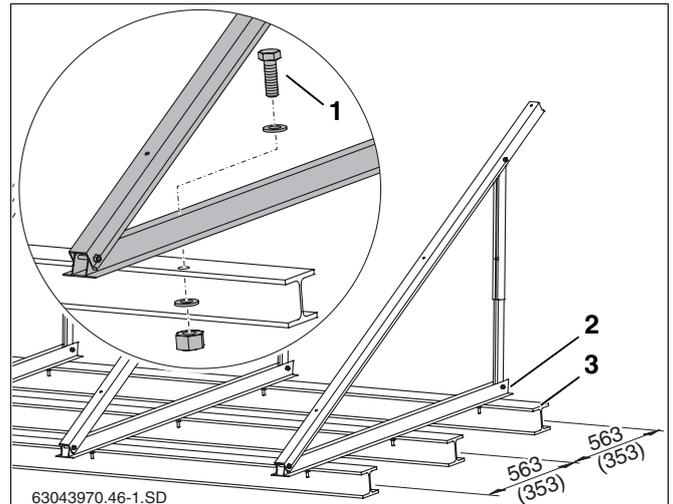

Fig. 26 Flat roof support on girders, dimensions in mm (value in brackets = landscape version)
You can fasten the flat roof supports with anchor bolts. As an example, we describe fastening onto girders (Fig. 26, **Item 3**).
- ▶ Transfer the lower profile hole clearances (Fig. 26, **Item 2**) onto the girders, and drill the corresponding holes.
- ▶ Insert screws (see Tab. 8 and Fig. 26, **Item 1**) through the profiles and girders and screw tight with nuts and washers.